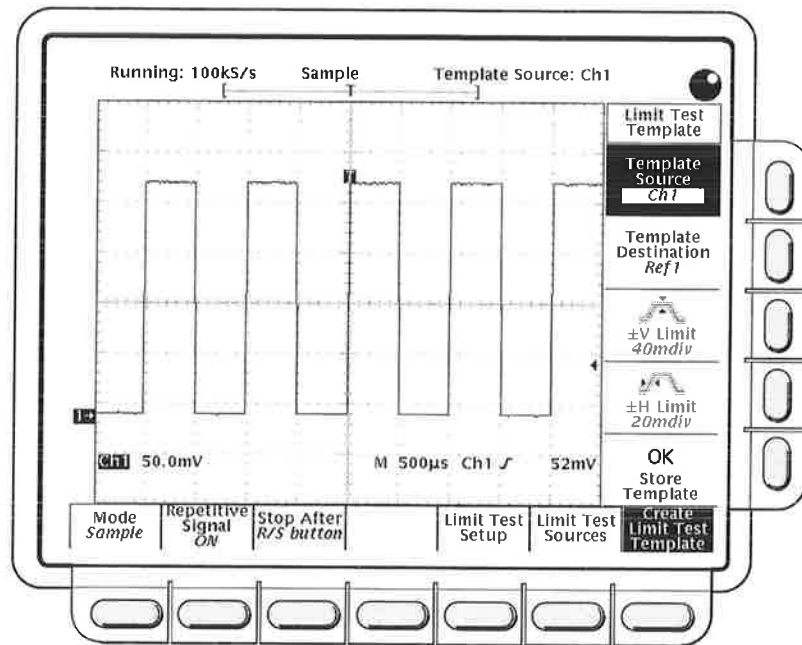

Figure 3-25: Acquire Menu—Create Limit Test Template
1. Press **Create Limit Test Template** (main) → **Template Source** (side) → **Ch1, Ch2, Math1, Math2, Math3, Ref1, Ref2, Ref3, or Ref4** (side). (See Figure 3-25).